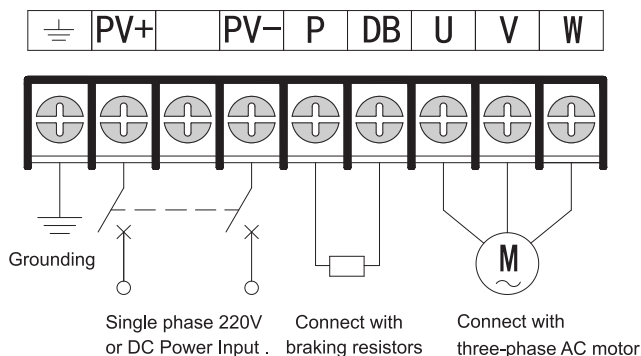
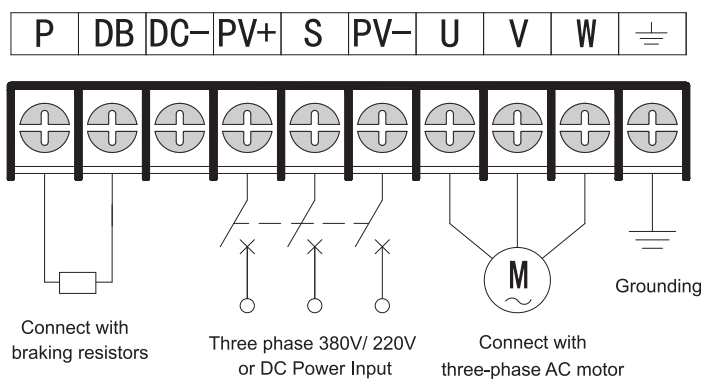

Fig.3-1 Main Circuit Terminal 1
Fig. 3-4 Main Circuit Terminal 4
5.1.1 Main circuit terminals are shown in Figure 3-1 to Figure 3-4.